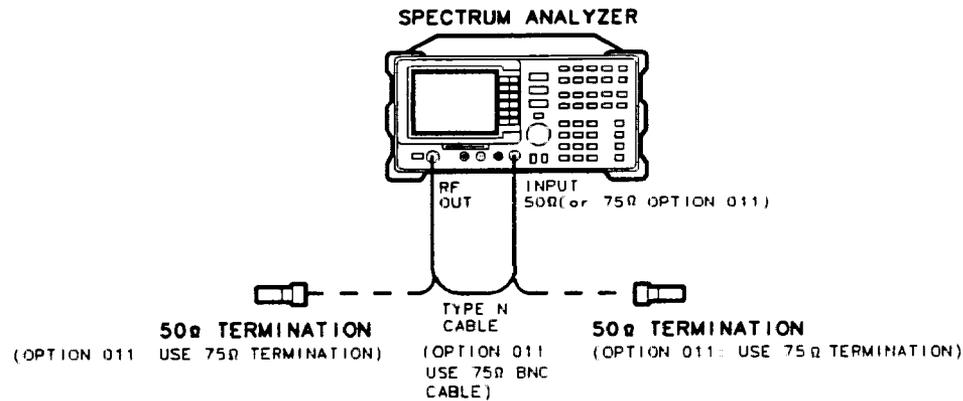

Figure 3-27. Tracking Generator Feedthrough Test Setup
1. Connect the Type N cable between the RF OUT 50Ω and INPUT 50Ω connectors on the spectrum analyzer. See Figure 3-27.